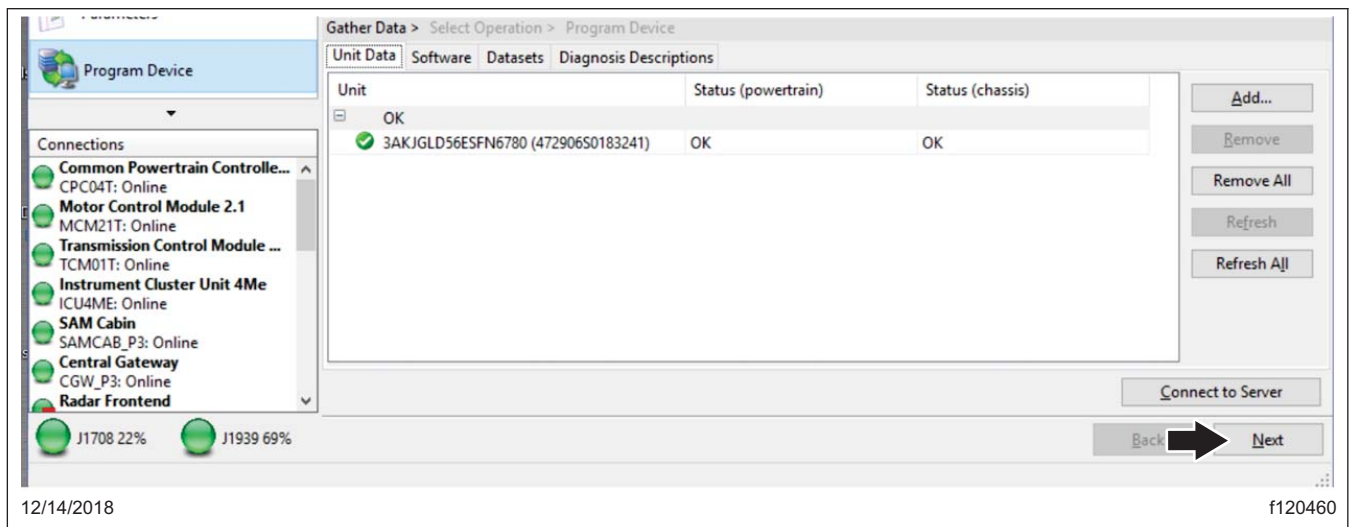

Fig. 8, Clicking Next
- Once the data has been downloaded, click "Next". See Fig. 8.